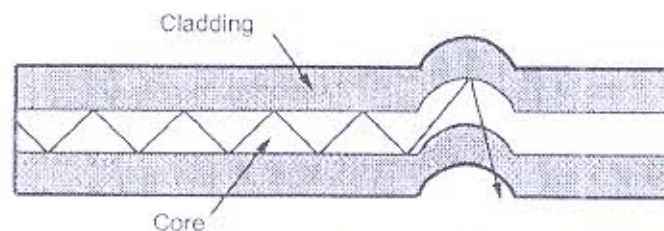

Fig. 2.4.2 Microbending
- The effects of microbending on multimode fiber can result in increasing attenuation (depending on wavelength) to a series of periodic peaks and troughs on the spectral attenuation curve. These effects can be minimized during installation and testing. Fig. 2.4.2 illustrates microbending.